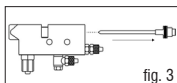

fig. 3
- 6) Needle nose pliers, pull the needle narrow (see Fig. 3)